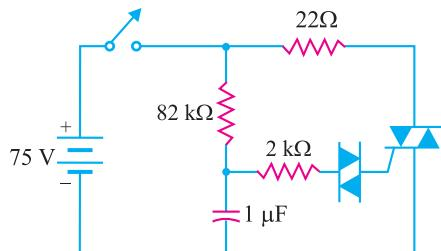

Fig. 21.34
6. In Fig. 21.34, the switch is closed. If the triac has fired, what is the current through the 22Ω ? **[3.41 A]**